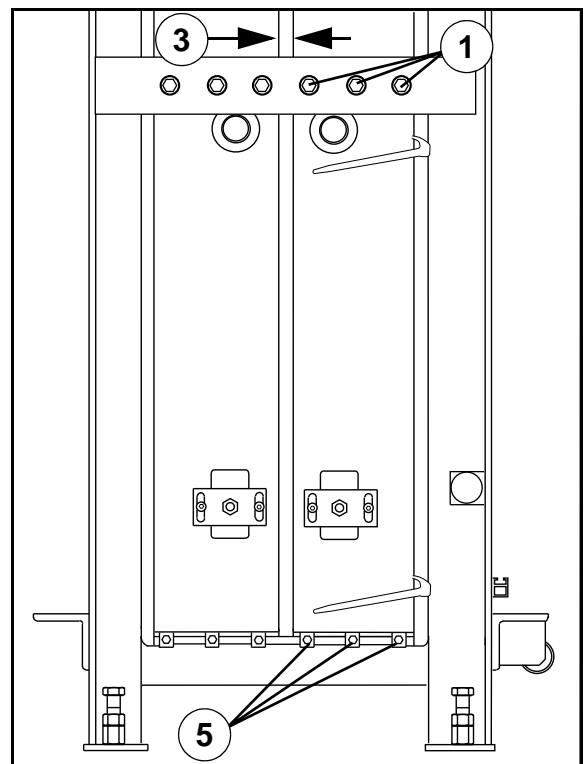

Fig. 32
- 2 Use a pinch bar to adjust the pressure between the upper part of cooling bars, see Fig. 32.
- 6 Use a pinch bar to adjust the pressure between the lower part of cooling bars, see Fig. 32. Adjusted equally as on upper part in order to keep the cooling bars parallel with equal pressure.